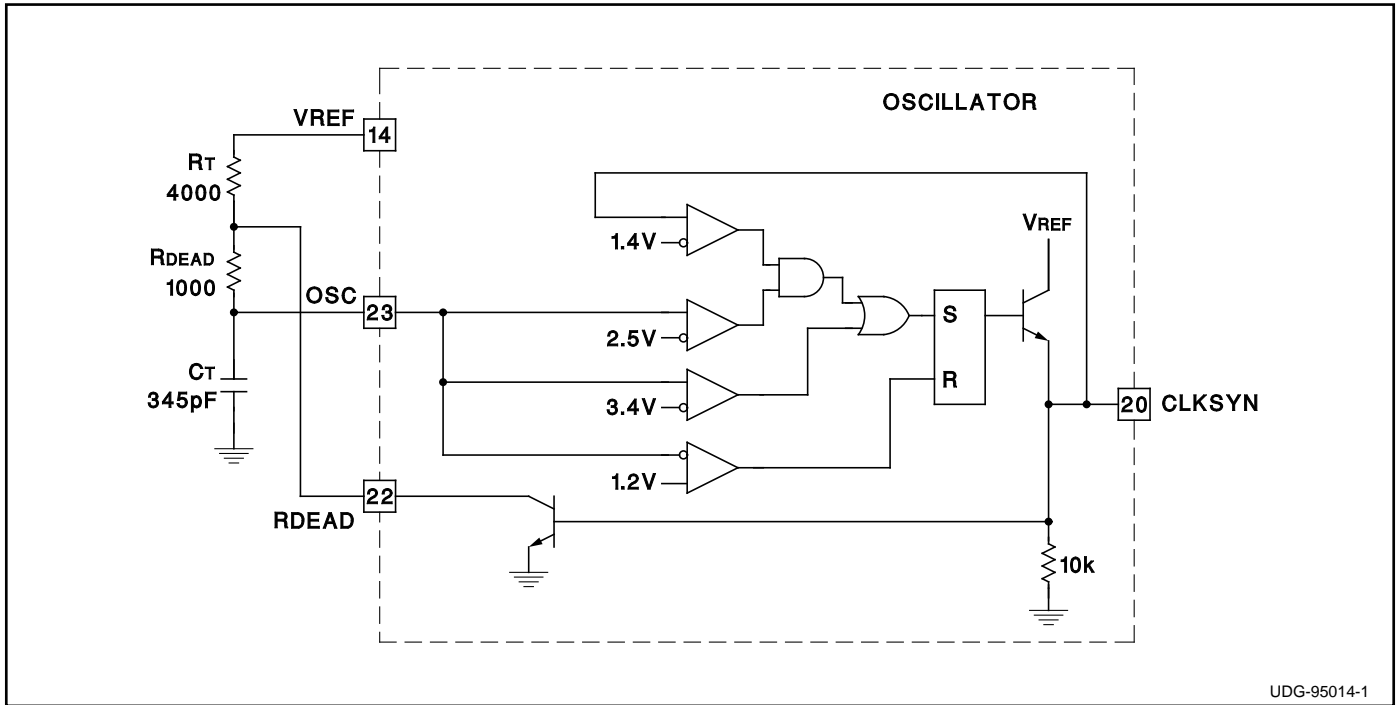
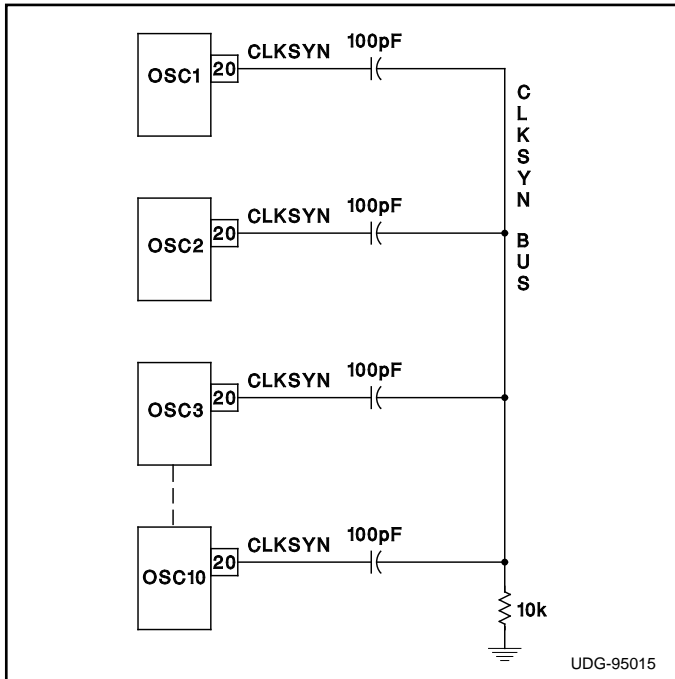

Figure 1. Oscillator Block with External Connections
Figure 3. Oscillator Synchronization Connection Diagram
The oscillator block diagram with external wiring is shown in Figure 1. OSC has a capacitor (CT) to ground and two resistors in series (RT and RDEAD) to VREF. The total resistance of RT and RDEAD divided by VREF – VOSC sets the exponential charge current. The oscillator charges from 1.2V to a 3.4V threshold with an RC time
As shown in Figure 3, several oscillators are synchronized to the highest free running frequency by connecting 100pF capacitors in series with each CLKSYN pin and connecting the other side of the capacitors together forming the CLKSYN bus. The CLKSYN bus is then pulled down to ground with a resistance of approximately 10k. Referring to Figure 1, the synchronization threshold is 1.4V. The oscillator blanks any synchronization pulse that occurs when OSC is below 2.5V. This allows units, once they discharge below 2.5V, to continue through the current discharge and subsequent charge cycles whether or not other units on the CLKSYN bus are still synchronizing. This requires the frequency of all free running oscillators to be within 40% of each other to guarantee synchronization.